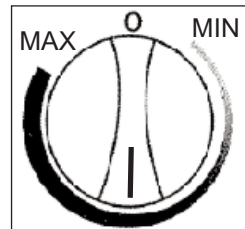

Fig. 1
1. Remove the two (2) screws from the back of the worktop, lift the back of the worktop slightly and pull the worktop forward, this will remove the worktop. See Figure 1.
- When maximum cooling is achieved, turn back the temperature control knob setting to the middle position on the graduated blue control dial. **See Fig.1.**